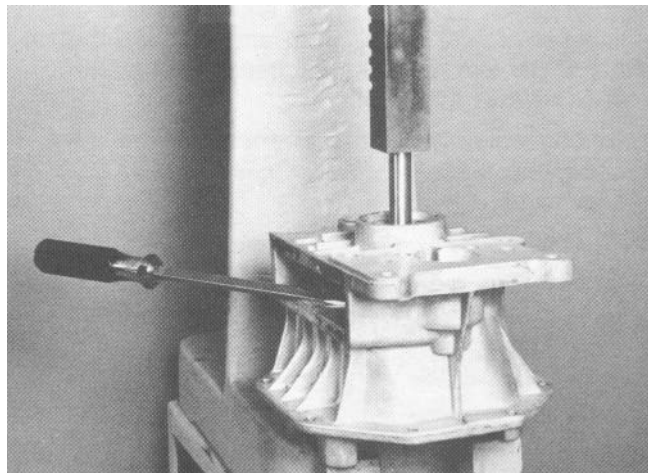

Figure 32
12. Position the housing assembly on a suitable press. Place a 1/8 inch (3 mm) piece of steel or a screwdriver blade under the edge of the spur gear. This will prevent the spur gear from cocking and possibly cracking the housing (Fig. 32).